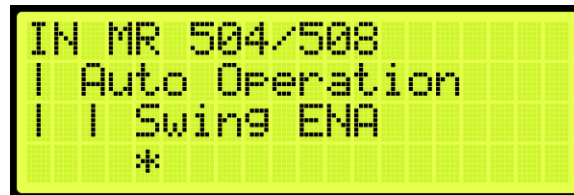

Figure 488: Input Menu – Enable Swing
8. Scroll and select Enable Swing (See Figure 488)